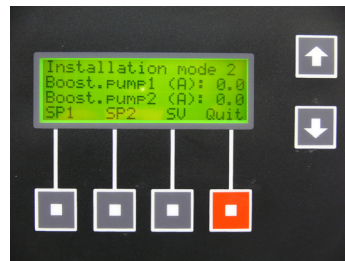

fig. 5
- After pressing the down „Arrow“ button the display will switch into the Installation Mode 2, see figure 5.